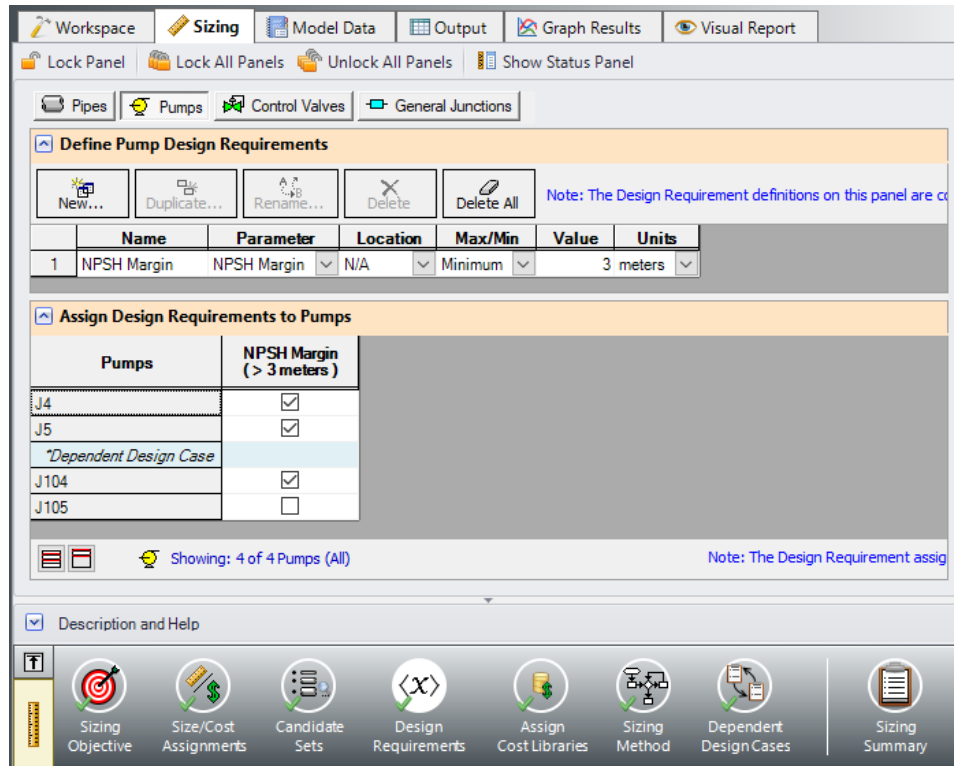

Figure 6: Pump Design Requirements for the dependent design case
2. Uncheck the box next to J105 to remove the NPSH requirement from Pump 105 in the dependent case (Figure 6).